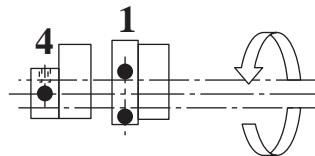

Fig.6
9. Turn handwheel (90°) counterclockwise and check position of eccentric screws "1-4". (Fig.6)